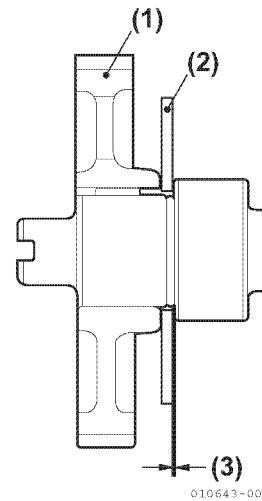

Figure 5-114
- Checking the camshaft side gap. Measure the thrust gap before disassembly. As the cam gear is shrink-fitted to the cam, be careful when replacing the thrust bearing (Figure 5-114).